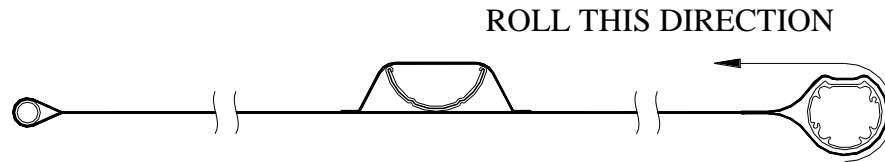

Figure 11
Refer to figure 11 for proper tarp assembly. Tarp may not have center ridge pole. Note: This is looking at the front of the tarp if system is Passenger stowing and it is looking at the rear of the tarp if the system is driver stowing.
- Roll the tarp up starting with the axle (as shown above in Figure 11)